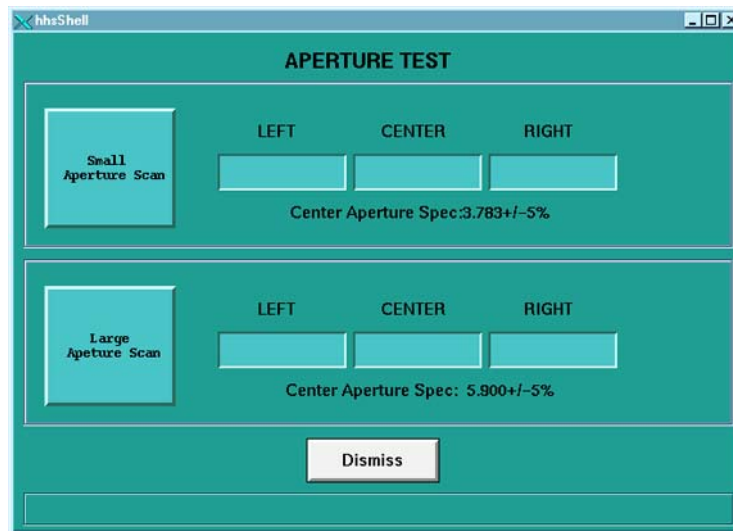

Figure 10-2 Collimator Aperture Test Screen
- 6.) Select SMALL APERTURE SCAN to display a scan protocol window and start gantry activity (refer to Figure 10-2).
- 1.) Select LARGE APERTURE to display a scan protocol window, and start gantry activity (see Figure 10-2).